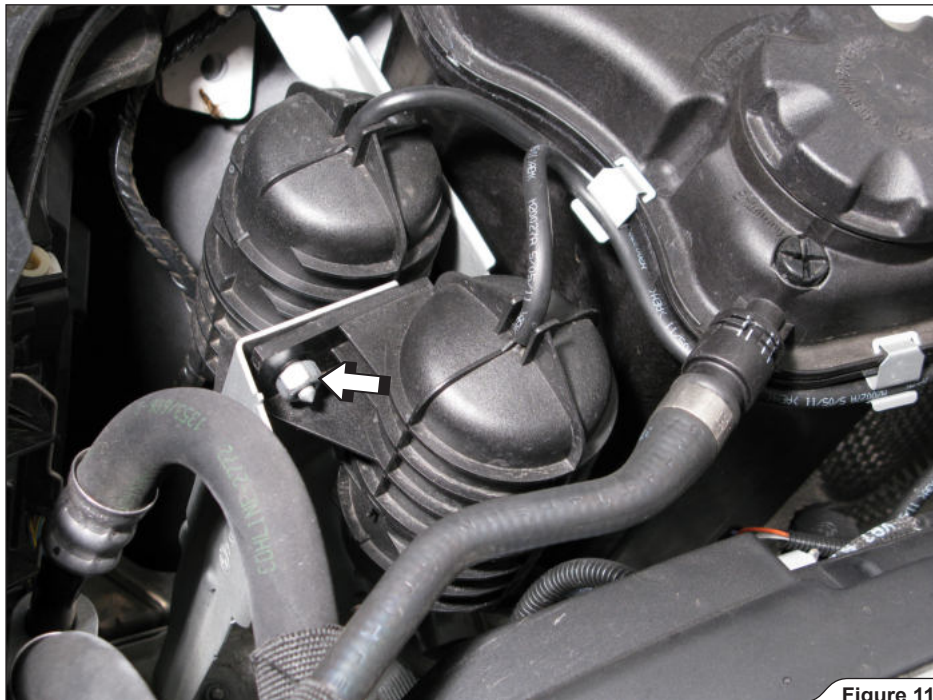

Figure 11
8. Unscrew the marked nut, carefully pull the lower vacuum tube off the vacuum tank and move the vacuum tank out of the way (Figure 11, 12).